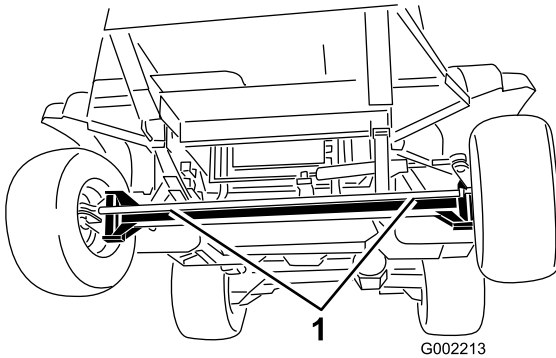
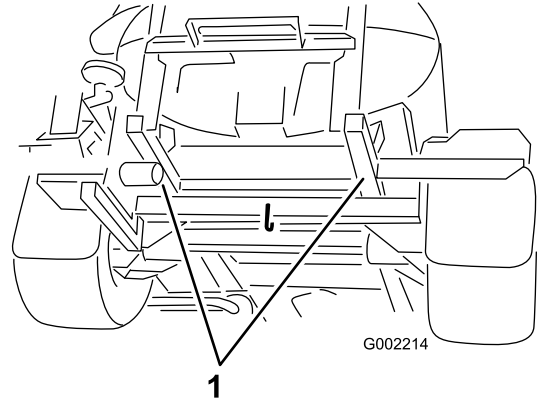

Figure 51
Figure 52
4. Affix a tow line to the frame; refer to the front and rear towing points (Figure 51 and Figure 52).